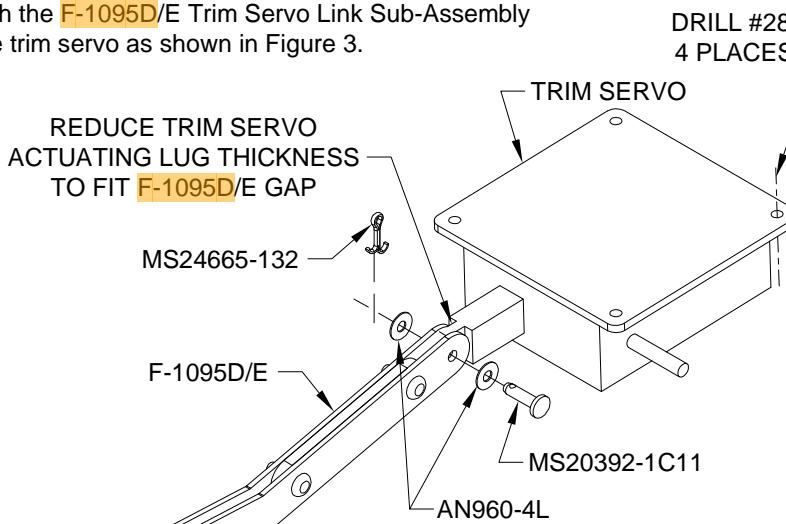

FIGURE 3:
Step 3: Enlarge the four mounting holes in the Trim Servo by drilling #28. See Figure 3.
Using a file, reduce the thickness of the actuating lug on the trim servo until it fits the gap of the F-1095D/E Trim Servo Link Subassembly. See Figure 3.
Attach the F-1095D/E Trim Servo Link Sub-Assembly to the trim servo as shown in Figure 3.